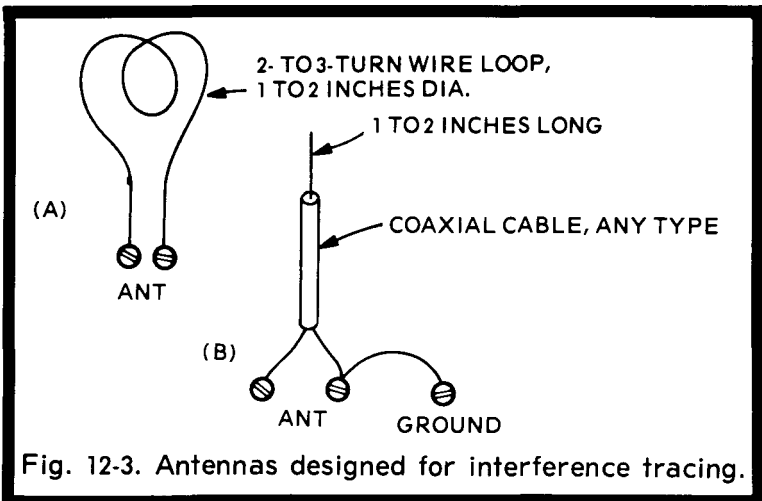

Fig. 12-3. Antennas designed for interference tracing.
A portable radio receiver, even if it covers only the medium-wave AM band, makes an excellent device to trace an interference source. Transistor radios, which have a built-in ferrite loop antenna, can be used as they are. Those receivers which have provision for an external antenna on the short-wave bands can be provided with either one of the two types of antennas for interference tracing shown in Fig. 12-3. The loop antenna (A) is made from a few turns of any stiff piece of wire. The loop need not be placed directly at the receiver antenna terminals, but if it is remotely located, it must be connected to the receiver via a shielded wire. Shielded 300-ohm twinlead is suitable, with the shield connected to the receiver ground terminal. The advantages of this type of antenna is that sometimes the directional characteristics of the loop allow you to obtain a bearing on the source of interference. If the
To begin the sometimes tedious task of tracking a source of interference, tune the receiver to any frequency in its range at which the interference sounds loudest. Make sure you have the same interfering signal by carefully observing its characteristics on both receivers. If a loop antenna is used (either built-in or external), turn it to see if the noise has directional characteristics. With the loop positioned for minimum pickup, the noise source should be at right angles to the plane of the loop (in and out of the page for Fig. 12-3).